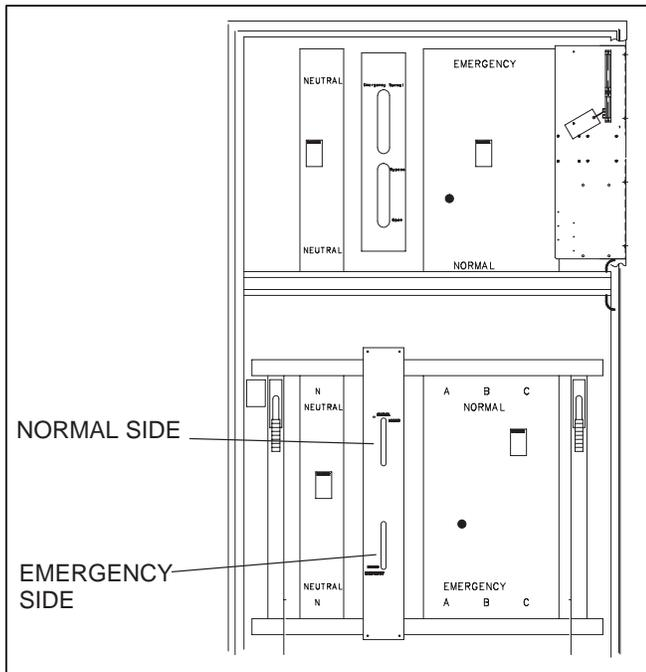

FIGURE 3-9. MANUAL TRANSFER SWITCH SLOTS
4. Then, insert the handle in the slot for the Emergency contacts and close the Emergency contacts by pulling the handle downward (Figure 3-9).